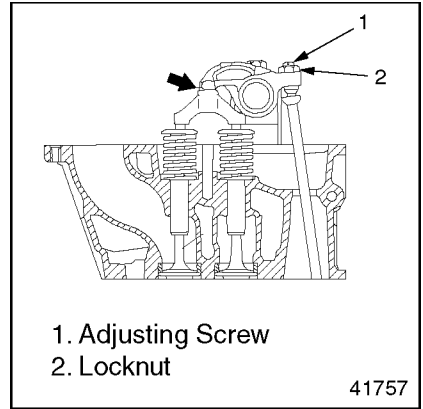
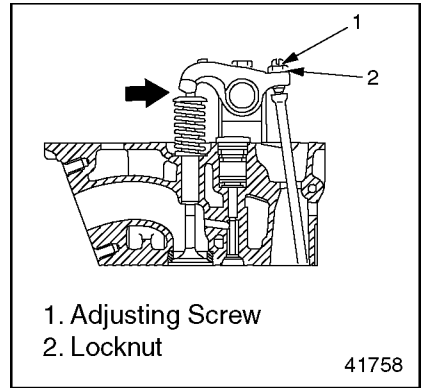

Figure 37 Intake Valves
Figure 38 Exhaust Valves
1. If adjustment is needed, loosen the locknut. See Figure 37 for intake valves and Figure 38 for exhaust valves. Use the **exact settings** listed in Table 28 in the "Adjust To" column.